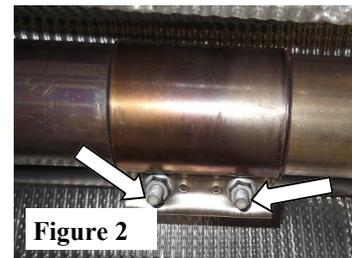

Figure 2
3. Loosen front band-clamp hardware and slide clamps forward. (See Fig. 2)